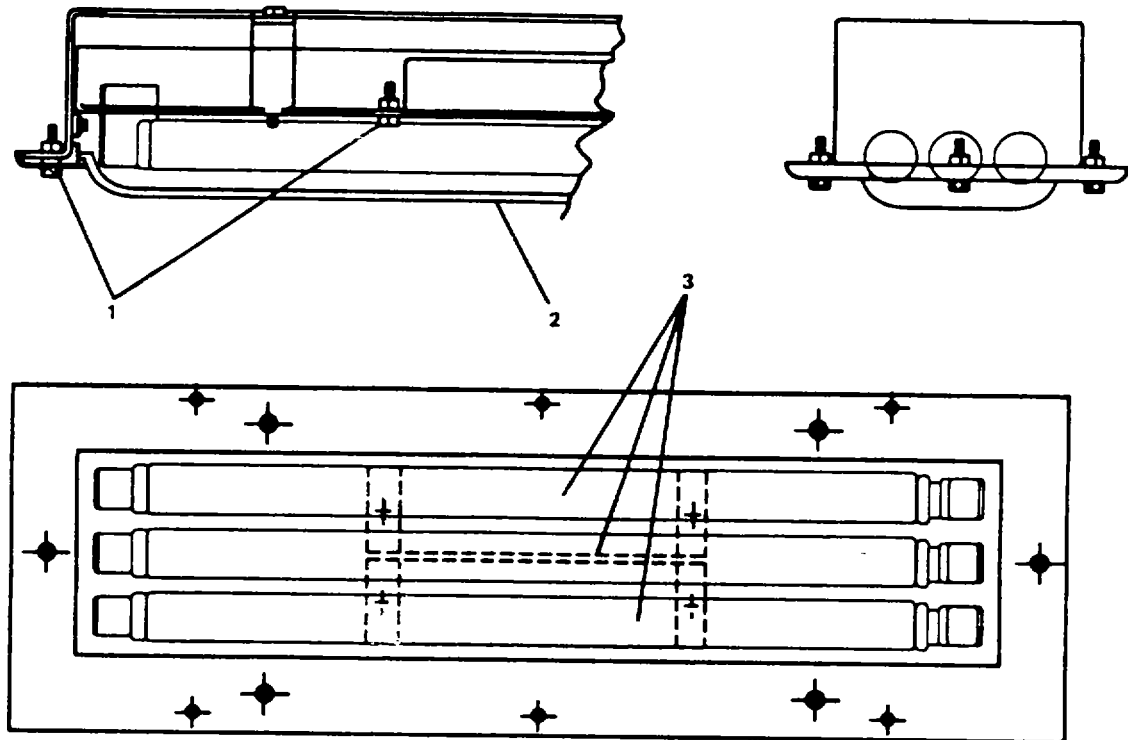

Figure 2-72. Repair Fluorescent Fixture. Recessed
- a. Remove captive-knurled screws (1, Figure 2-72).
- b. Remove diffuser (2).
- c. Remove fluorescent lamps (3).